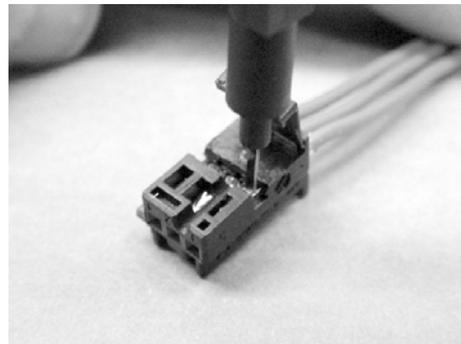

Figure 5
3. Insert the extraction tool tip into the first window of the circuit cavity on the side of the connector until it bottoms inside the window. See Figure 5.
5. Insert the extraction tool tip into the second window of the circuit cavity on the side of the connector until it bottoms inside the window. See Figure 5.